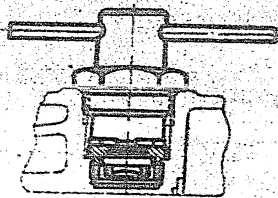

Fig. 13
a) Screwing-out and screwing-in the 3rd stage suction valves with the help of a special wrench (Fig. 13);